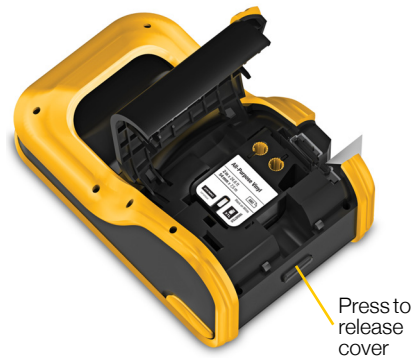

Figure 7
- 1 Press the label compartment release and lift the cover. See Figure 7.